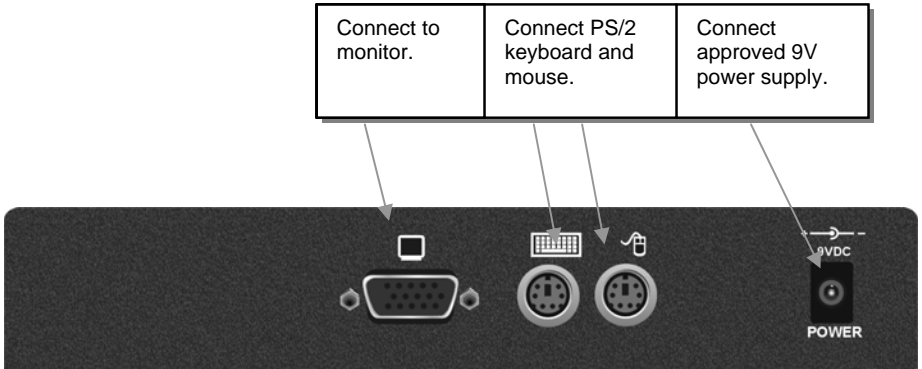
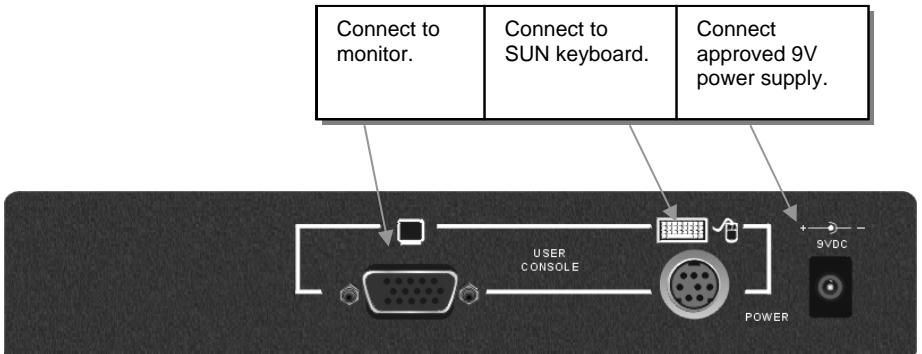
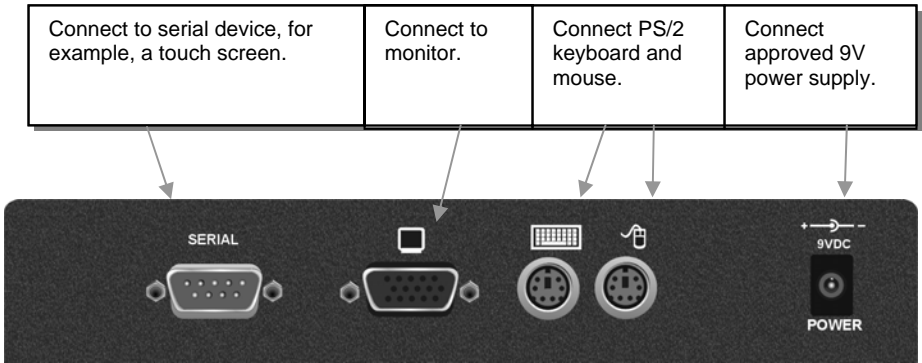

Figure 3 Standard Remote Unit (ACUREM - also supplied with ACU1001A and ACU1009A kits) – rear view
Figure 4 SUN Remote Unit (supplied with ACU1004A and ACU1005A kits) – rear view
Figure 5 Serial Remote Unit (ACUSREM – also supplied with ACU1002A and ACU1008A kits) – rear view
2. Connect your keyboard, monitor(s) and mouse to the Remote Unit as shown in Figure 3 (Standard), Figure 4 (SUN) or Figure 5 (Serial).